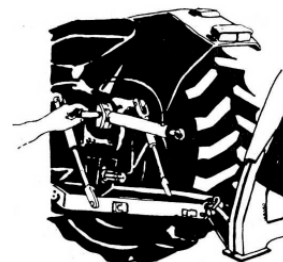

Fig 2
4. Connect the hydraulic cylinder to the third point of the tractor three-point linkage (fig 2).